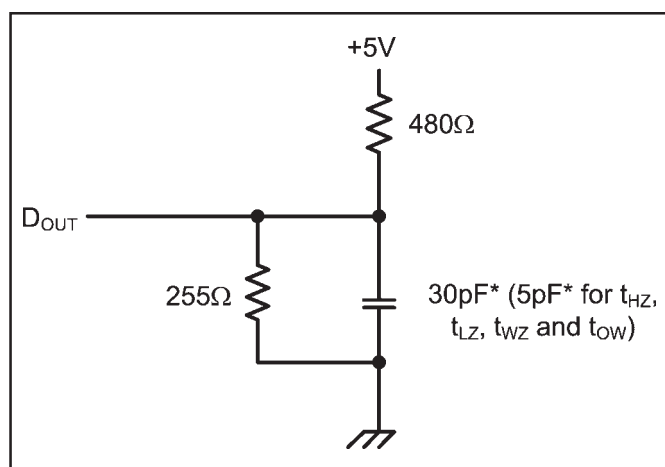

Figure 1. Output Load
7. Transition is measured $\pm 200mV$ from steady state voltage prior to change with specified loading in Figure 1. This parameter is sampled and not 100% tested.
- 12. Transition is measured $\pm 200mV$ from steady state voltage prior to change with specified loading in Figure 1. This parameter is sampled and not 100% tested.
Output Load	See Figures 1 and 2